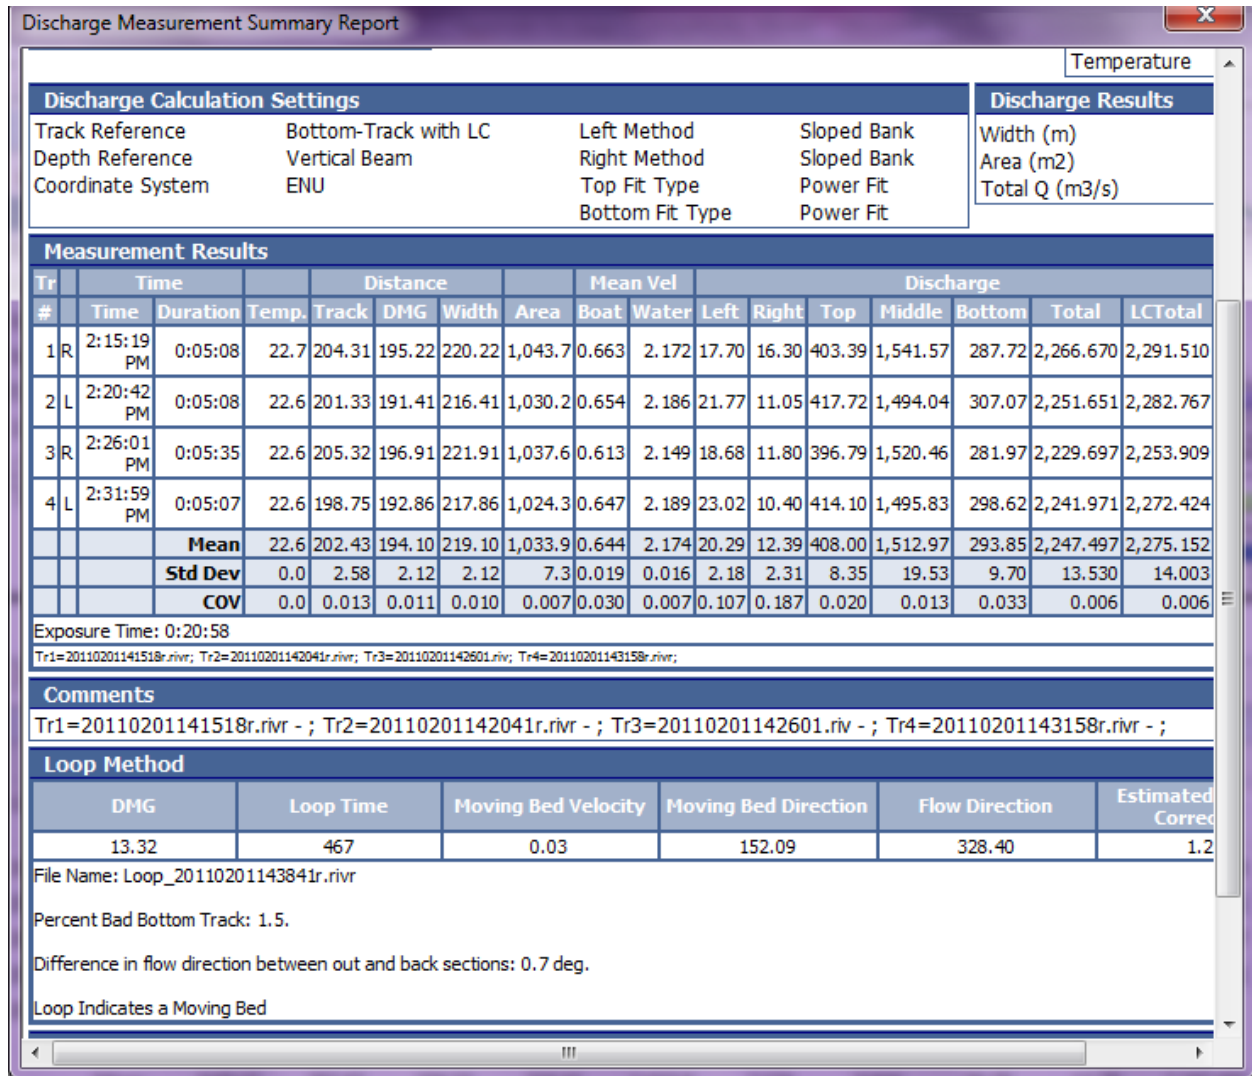

Figure 186. Discharge Summary Report
- Click the **Discharge Summary Report** icon under the Discharge Summary table to generate the final discharge summary report. The final report will display the entire Loop Method analysis along with measured and loop corrected discharge values as shown in Figure 186: